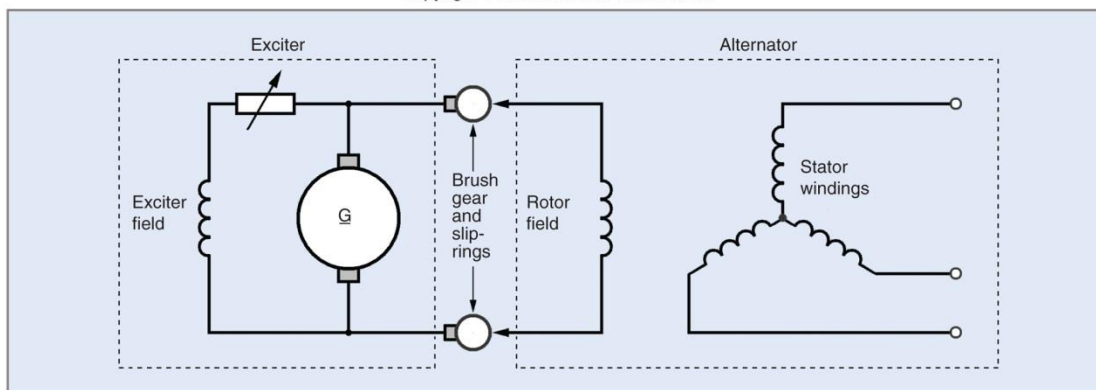

Figure 2 - Simplified representation of a three phase alternator.
5. A machine which is designed to produce a sinusoidal a.c. output is known as an alternator or a.c. generator - a simplified arrangement for a single phase alternator is shown in Figure 2. The output from the alternator is supplied directly to the load. In large alternators the d.c. for the rotating field is supplied from a d.c. generator (known as an 'exciter') mounted on the same shaft.